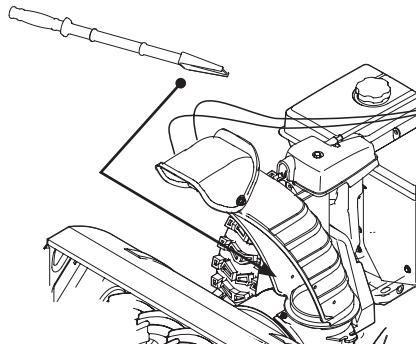

Figure 3-18
- Use the shovel-shaped end of the clean-out tool to dislodge and scoop any snow and ice which has formed in and near the chute assembly. Always use the clean-out tool (Part # 931-2643), not your hands. Refer to the separate supplement for clean-out tool ordering information. See Figure 3-18.